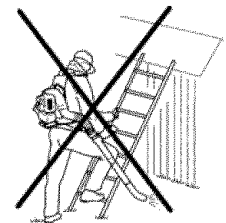

Fig.1
- Do not operate the blower where your position is unstable, such as on a ladder, up a tree or on a steep slope.(Fig.1)